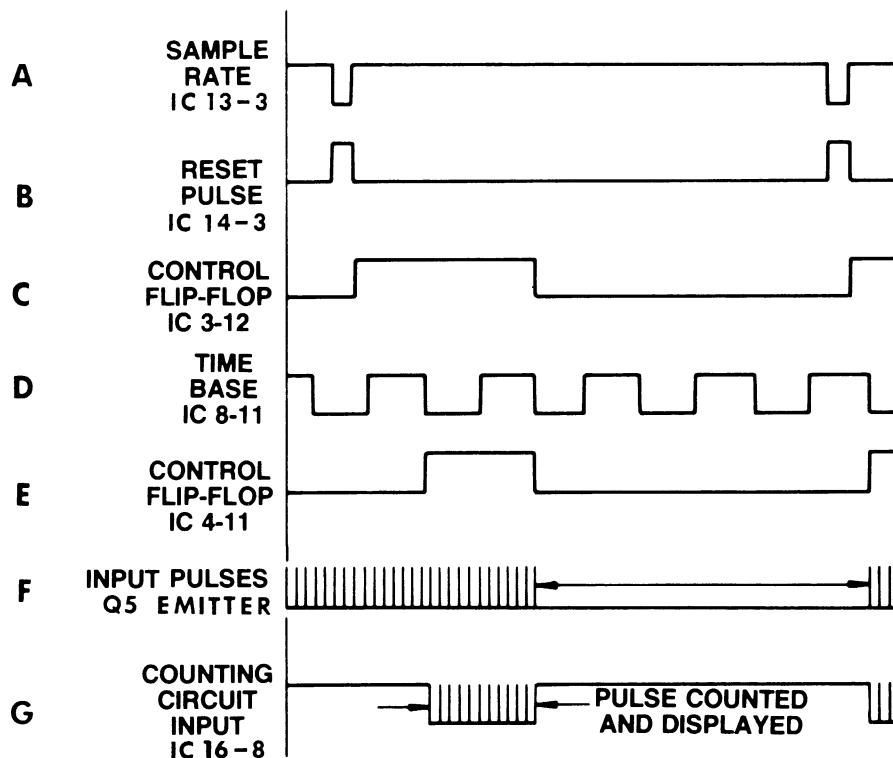
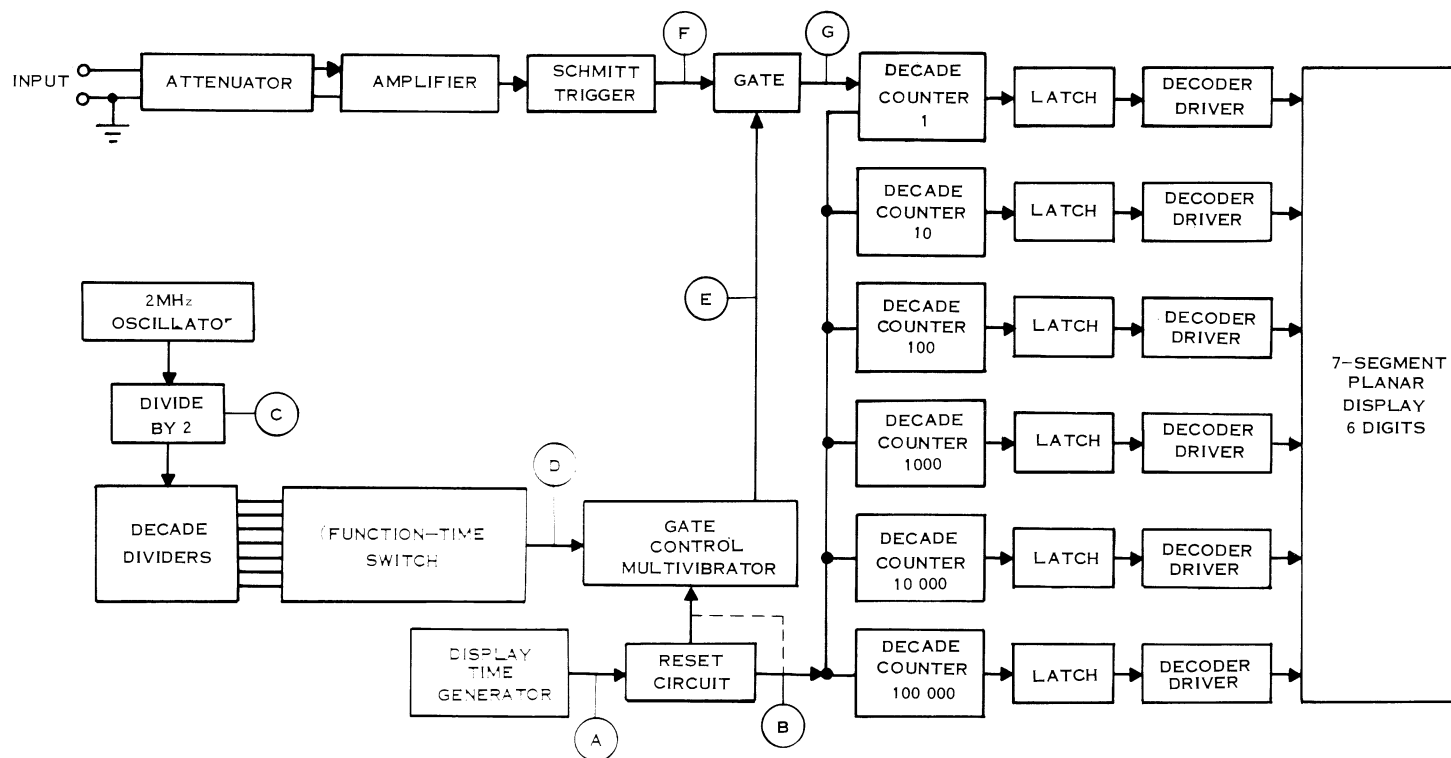

Figure 6-1. Family of Time Related Waveforms Found in Simpson Model 7016
Figure 6-2. Block Diagram, Frequency Counter-Timer Simpson Model 7016
Figure 6-1 illustrates the waveform relationships for Simpson Model 7016 frequency counter circuit with block diagram shown in Figure 6-2.
- To view and compare any two of waveforms shown in Figure 6-1, press vertical mode switch buttons